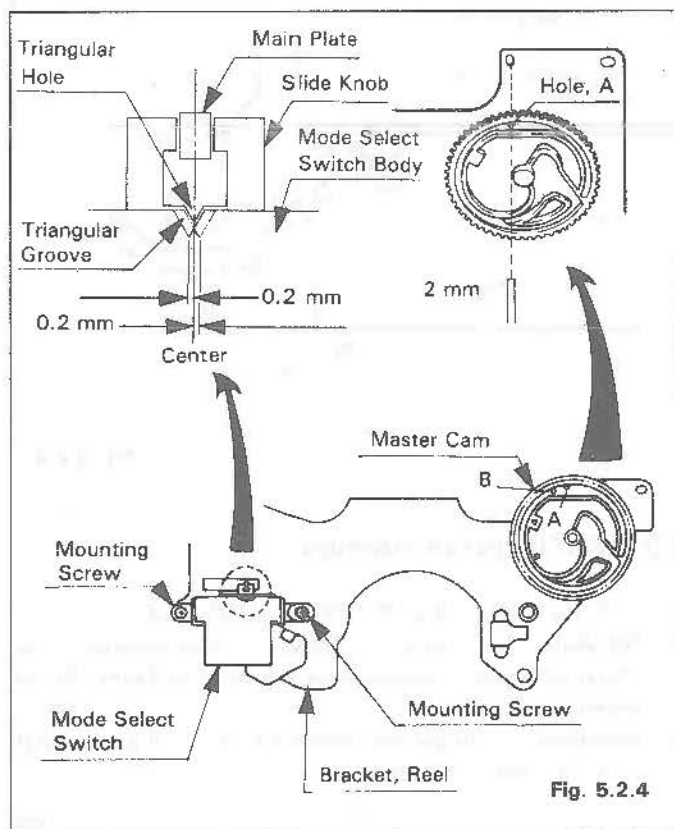

Fig. 5.2.4
1. Match the 2 mm dia. hole A on the master cam and the oval hole on the reel bracket. (Refer to Fig. 5.2.4)
4. Adjust the switch body so that the triangular hole on the slide knob matches the triangular groove on the switch body. (Refer to Fig. 5.2.4)